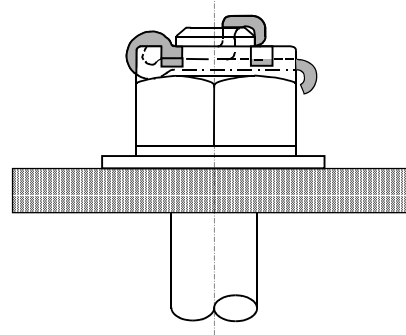

Figure 9-4
6. All lockwire and cotter pins must fit snugly in holes drilled in specific hardware. On castellated nuts, unless otherwise specified, the cotter pin head must fit into a recess of the nut with the other end bent such that one leg is back over the stud and the other is down flat against the nut in accordance with Figure 9-4. Use only manufacturer specified corrosion resistant steel cotter pins. All lockwire used on TCM engines must conform to MS20995 Condition A.
3. Seat the prongs firmly against the bolt and nut. See Figure 9-4, “Cotter Pin Installation Procedure.”